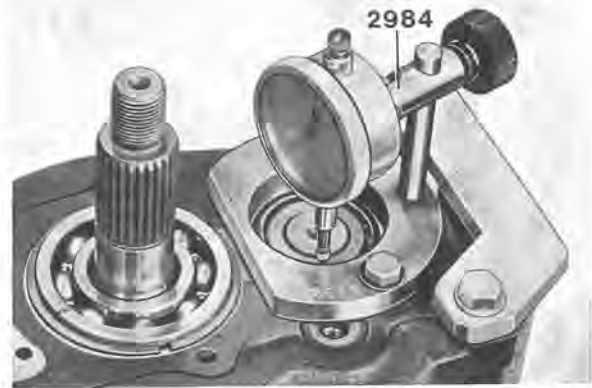

Fig. 4-34. Measuring axial clearance
8. Turn the gearbox with the rear end upwards. Fit the gasket and place a 0.7 mm (0.028") shim on the rear bearing outer ring. Fix the measuring stand 2984 with two bolts as shown in Fig. 4-34. Mark up and place the dial indicator with the measuring point facing the inner ring.